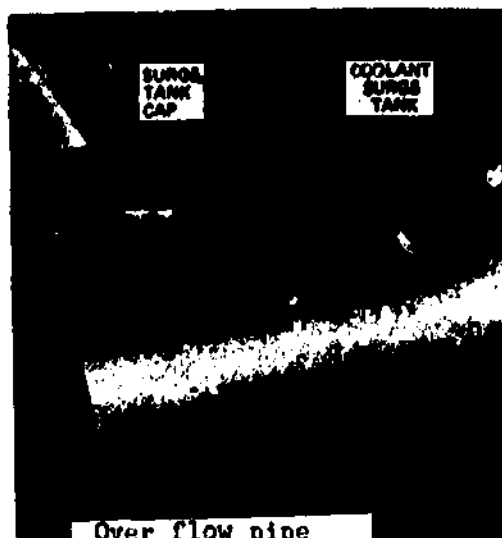

Fig 2-63. Surge tank and overflow pipe.
c. Coolant surge tank (fig 2-63). The surge tank not all vehicles are equipped with one) mounting brackets should be checked for tightness and cracked or broken supports. The radiator cap seal should be clean. The radiator cap should be checked to insure that both locking positions are functioning. The first locking position is roughly a quarter of a turn. When the cap is turned to this first position, the system is not airtight nor can it become pressurized here. This position is used to prevent the cap from flying off when it is necessary to relieve pressure from the system. The second position, roughly half a turn past the first position, seals the cap down in the filler neck so that the system is pressurized.